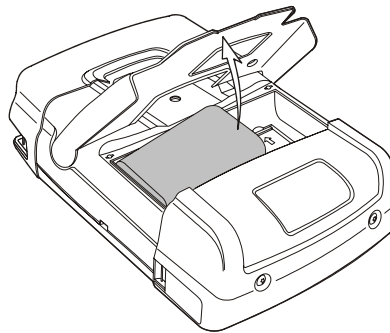

Figure 4-5. Removing the Battery
- Lift one side of the battery and remove it (Figure 4-5)